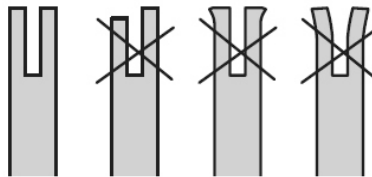

Fig. 25c
5. Check the guide bar 'rail' for wear: Hold a ruler (straight edge) against the side of the guide bar and 'cutter side plates'. If there is a gap between the ruler and guide bar the guide bar 'rail' is normal. If there is no gap (ruler flush against the side of the guide bar) the guide bar 'rail' is worn and needs to be replaced with a new one of the same type. (See Fig. 25c)